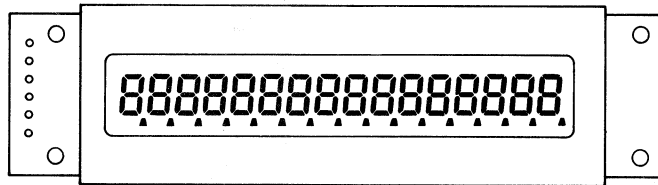

Fig. 1 Universal display module
**DISPLAY MODE***Scale 1:1**Fig. 1 16-character, 1-line LCD module*